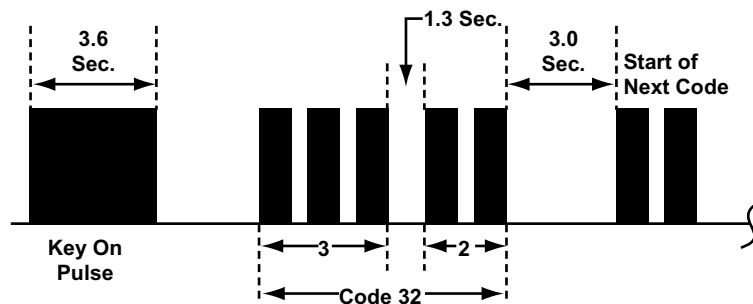

Figure 4-41 Acura ABS Code Type 06
- Type 06, see Figure 4-41 and Table 4-11 on page 35